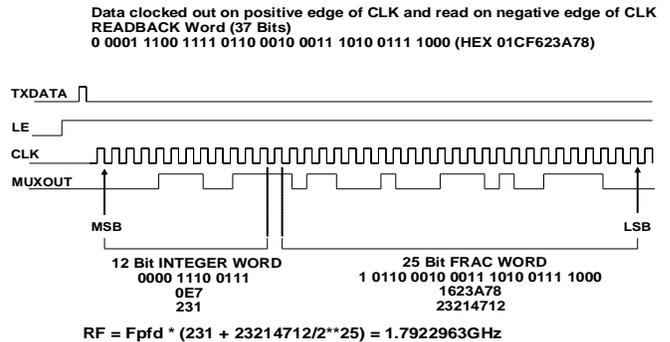

Figure 43 Reading Back Single Bits to Determine the Output Frequency at the Moment of Interrupt
The mechanism of how single bits are read back is shown in Figure 43.
- Interrupt Modes and Frequency Readback section on Page 29 and Figure 43)